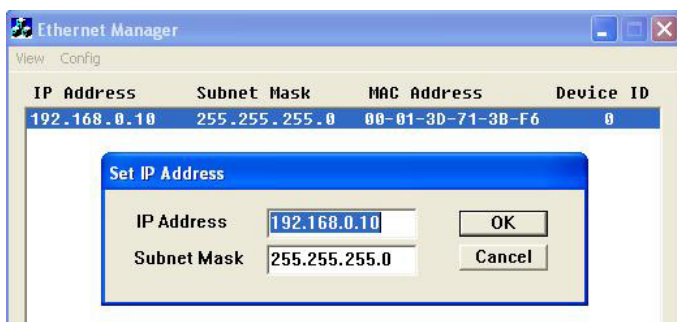

Figure 4
2. At the main menu, press **Enter** or click **IP Address**, a dialog box will show up, see **Figure 4**. Assign an IP address with the same subnet mask as your computer, click **OK**. Avoid any IP conflict with other network devices.